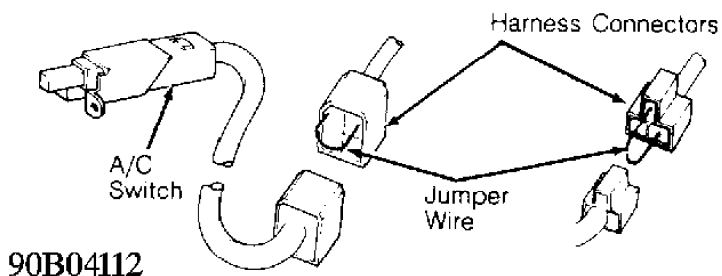

Fig. 4: A/C Switch Connector ID
1) Disconnect A/C switch harness connector. Using appropriate wiring diagram as a guide, jumper appropriate terminals of A/C switch wiring harness connector. See Fig. 4.